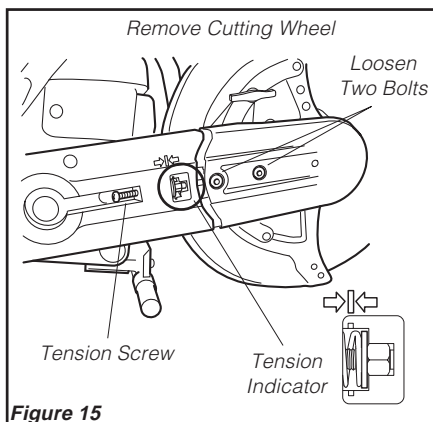

Figure 15
1. Remove the cutting wheel (See pages 10 and 11). Using a Phillips screwdriver, loosen the tension screw until the tension indicator is all the way to the front of the scale. See Figure 15.